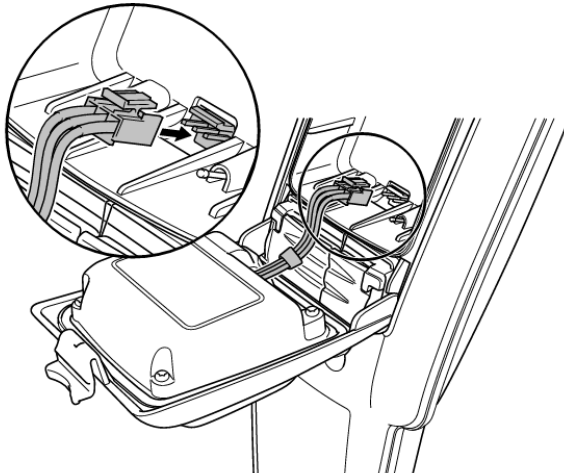

Figure 4.6: Connecting the Li Ion lead
- 2 If using a Li-Ion battery pack un-plug the lead connector (refer to Figure 4.6: Connecting the Li Ion lead).
If using the Li-ion battery pack, plug the lead into the battery connector (refer to Figure 4.6: Connecting the Li Ion lead).